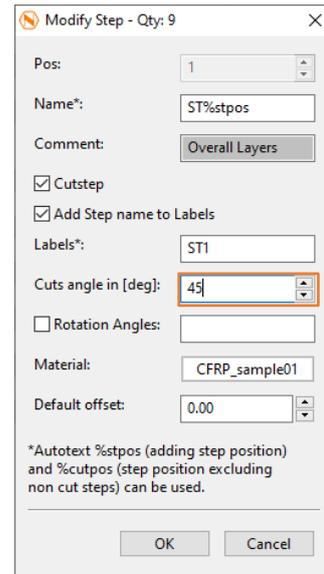

Figure 240
27. Now enter “45” into the Cuts angle entry box (Figure 240).